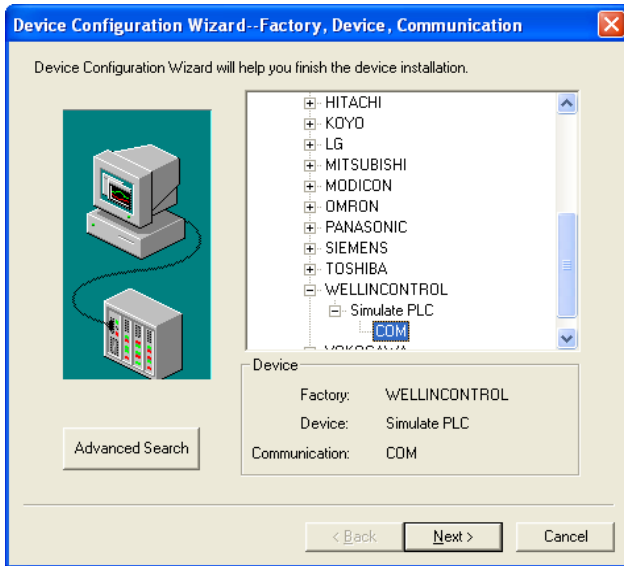

Fig. 12 Device Configuration Wizard-2
1. Expand "PLC" and choose "WELLINCONTROL->Simulate PLC->COM", click "Next" to continue the configuration. (See Fig. 12);